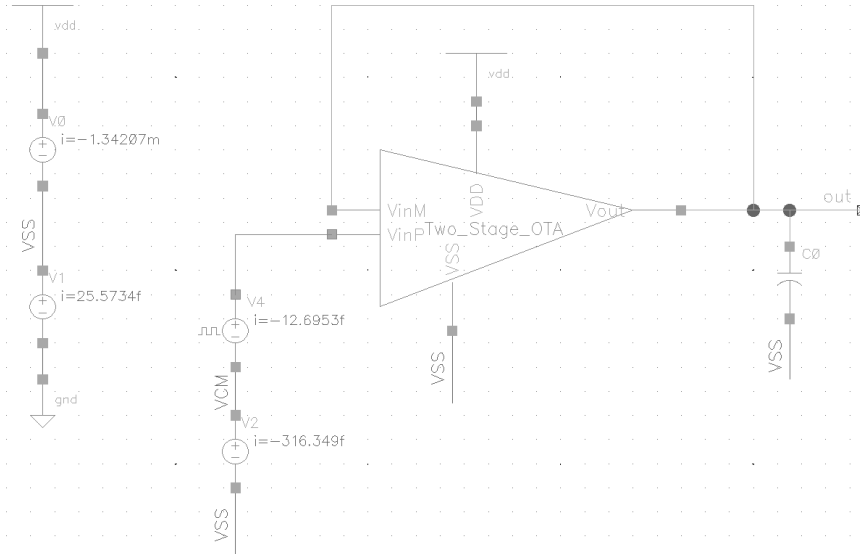

Figure 8: OPAMP with PMOS as a compensation Rz power consumption.
- b. Figure 8 shows the current sink by the OPAMP with a PMOS as Rz compensation, using it the power consumption can be calculated.